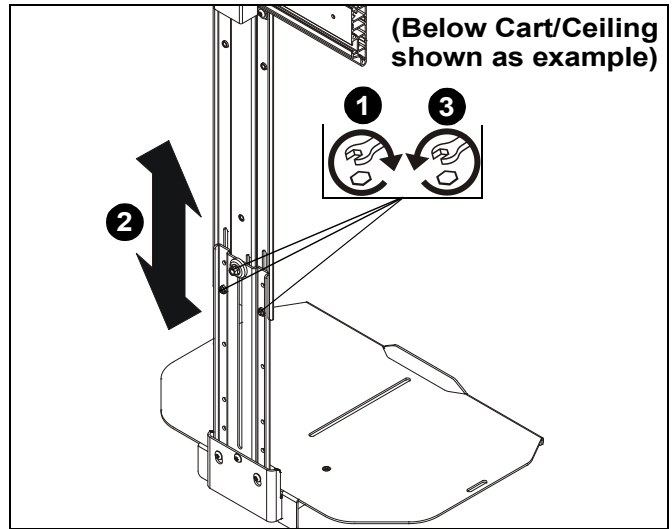

Figure 13
1. Loosen hardware used to attach main bracket (B) to upright bracket (A). (See Figure 13)
2. Adjust shelf height as desired. (See Figure 13)
3. Tighten hardware used to attached main bracket (B) to upright bracket (A). (See Figure 13)